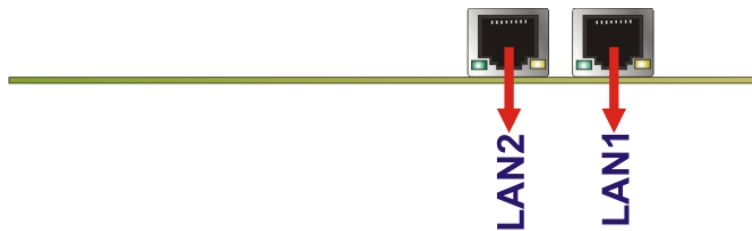

Figure 3-33: External Peripheral Interface Connector (G2L2 Models)
CN Location:	See Figure 3-33
- CN Location:** See **Figure 3-33**